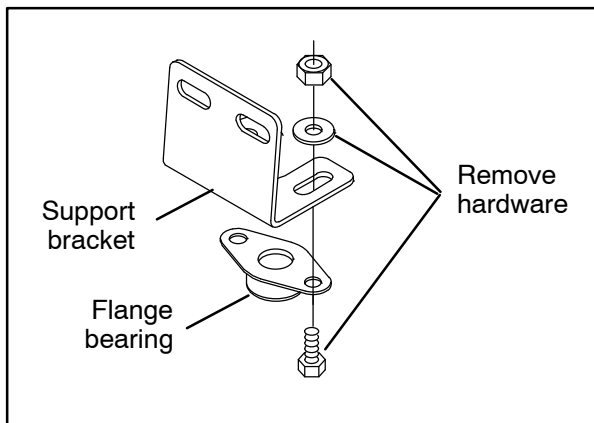

FIG. 31
29. Remove the flange bearing from the bearing support bracket. Set the flange bearing and hardware aside. Discard the bearing support bracket. (Fig. 31)